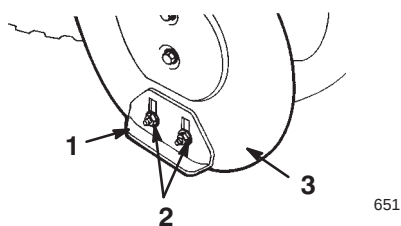

Figure 22
5. Loosen the 4 flange nuts that secure both skids to the auger side plates (Fig. 22) until the skids slide up and down easily.
- Tighten the 4 flange nuts that secure both skids to the auger side plates (Fig. 22).